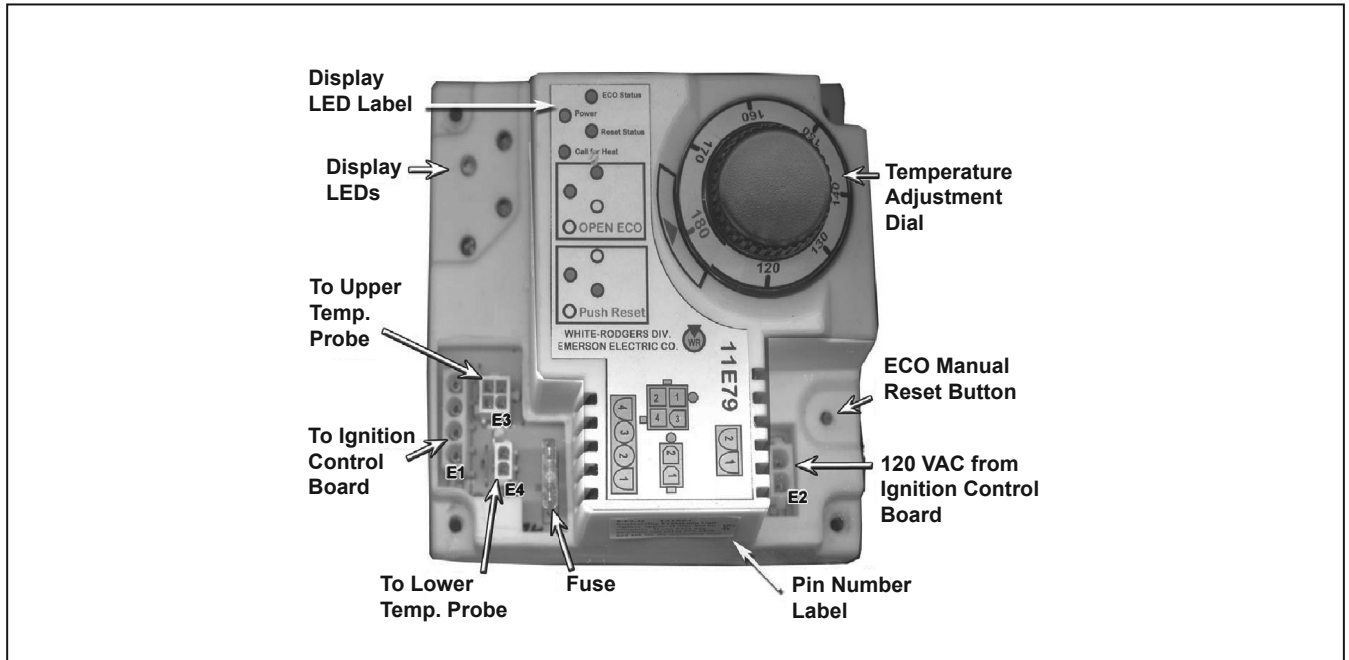

Figure 17
ECO cutout (Energy Cut Off). Tank temperature has risen above 203°F and caused lockout. ECO status LED on integrated control will also be illuminated. See Figure 17.
- 2 Cool tank to below 120°F to reset. ECO reset status LED will illuminate on the integrated control when the control can be reset. Push reset button on integrated control. See Figure 17.
Tank has cooled below 120° F. Preceded by “ECO Open” indication.	<ul style="list-style-type: none"> • Push the manual reset button. Refer to Figure 17. • Troubleshoot for the reason that the ECO opened.